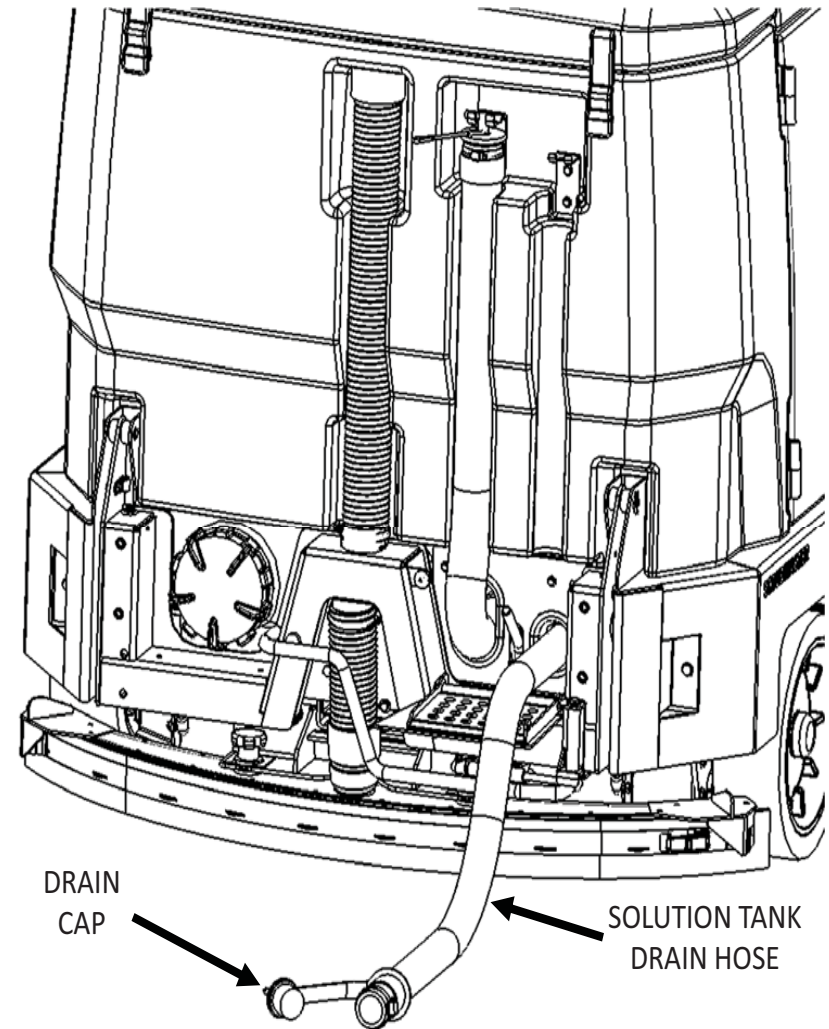

Fig. 1: Draining the Solution Tank
3. Grab the end of the solution tank drain hose and lower slowly to the floor near floor drain. (See Fig. 1)
4. Loosen and remove the cap. (See Fig. 1)